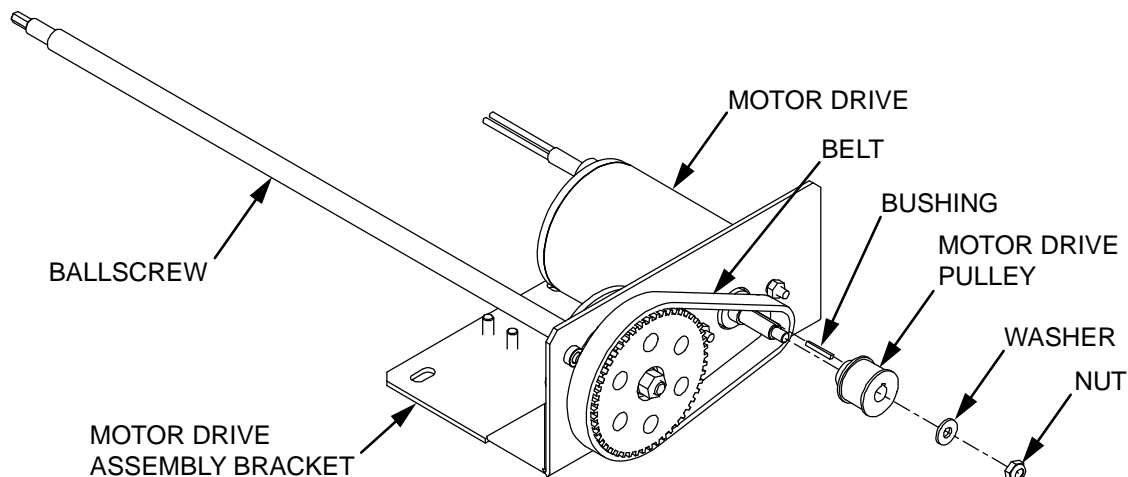

FIGURE 4-18: MOTOR DRIVE ASSEMBLY
- i. Refer to **Figure 4-18**. Remove and retain nut and washer that attach the motor drive pulley to the motor drive.